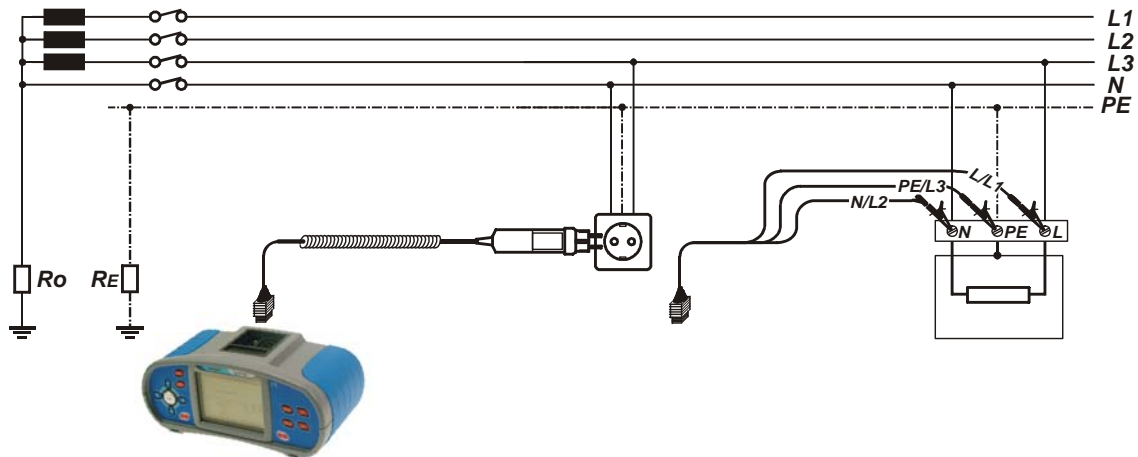

Figure H.2: Connection of plug cable and universal test cable
- ❑ **Connect** test leads to the tested object (see figure H.2).